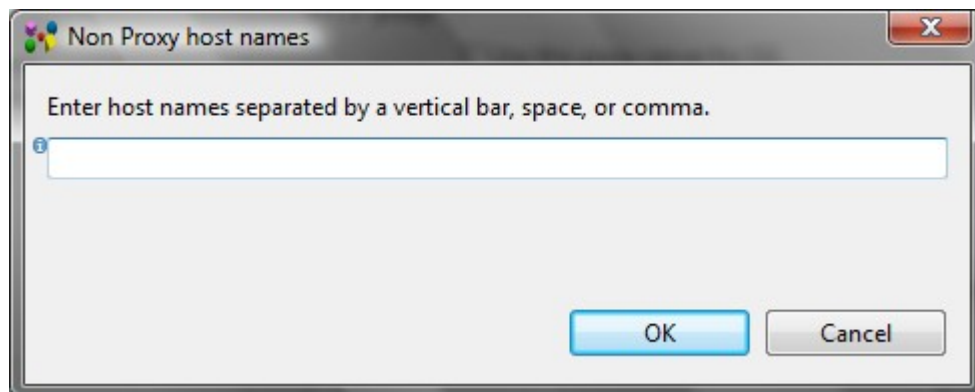

Figure 2. Nor Proxy host names dialog window
- Add a new host by clicking on **Add Host** button. The **No proxy host names** dialog window appears (see Figure 2).